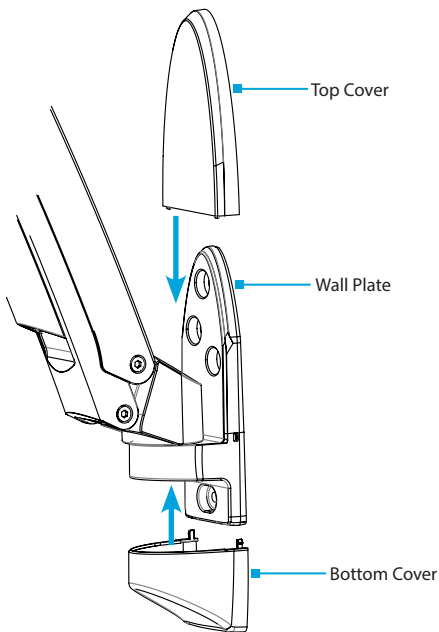

Figure 11
3. Slide the **Top Cover** and the **Bottom Cover** onto the **Wall Plate**, until each one clicks into place. (Figure 11)